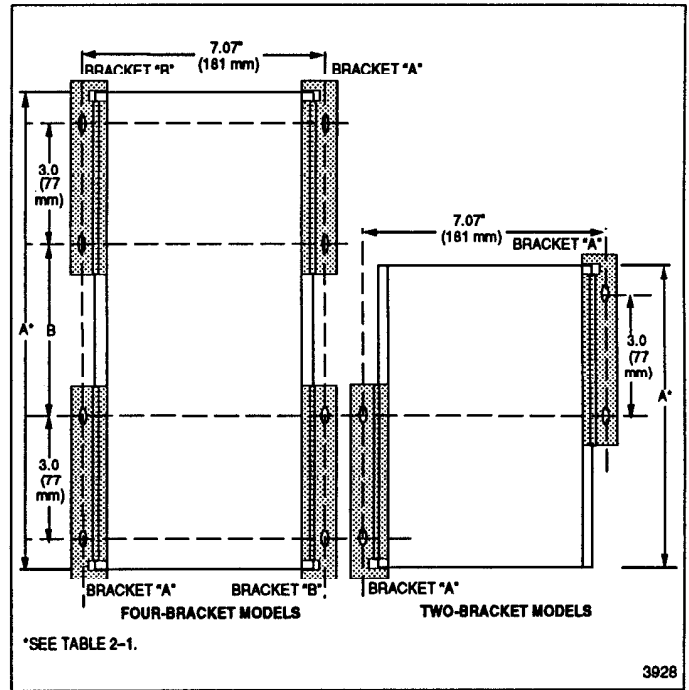

Figure 2-1. Mounting orientation for large (four-bracket) and small (two-bracket) Model 664 SCR controllers.
You can mount all models of the model 664 controller on a bench, but the preferred method is to mount them vertically on a bulkhead using two or four brackets (supplied) depending on the size of the controller. Figure 2-1 and table 2-1 give mounting dimensions for each model.
Table 2-1. Mounting Bracket Dimensions for Figure 2-1. Dimensions in Inches (mm).
2. Using figure 2-1 and table 2-1 as guides, mark the locations of the holes that must be drilled.
4. Attach the lower mounting bracket(s) (one or two, depending on the size of the controller) to the mounting surface using #10 screws (not supplied). Orient the bracket as shown in figure 2-1. Do not tighten the screws yet.